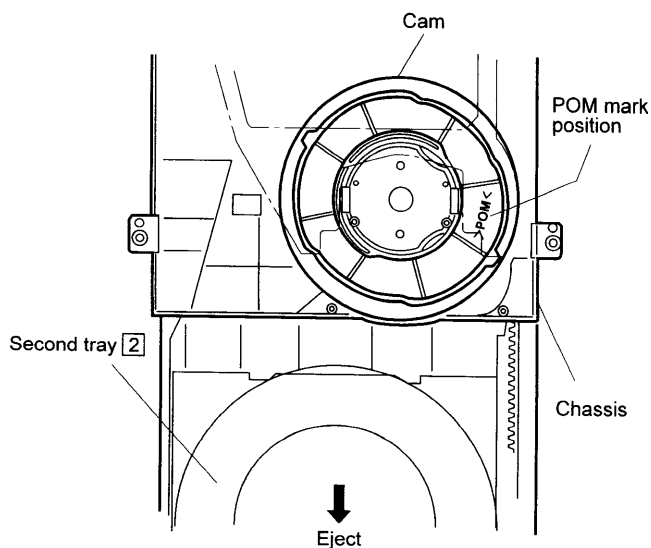

Fig. 2-1-14
1. Eject the second tray [2]. (Set the POM mark of the cam to the position as shown in Fig. 2-1-14.)